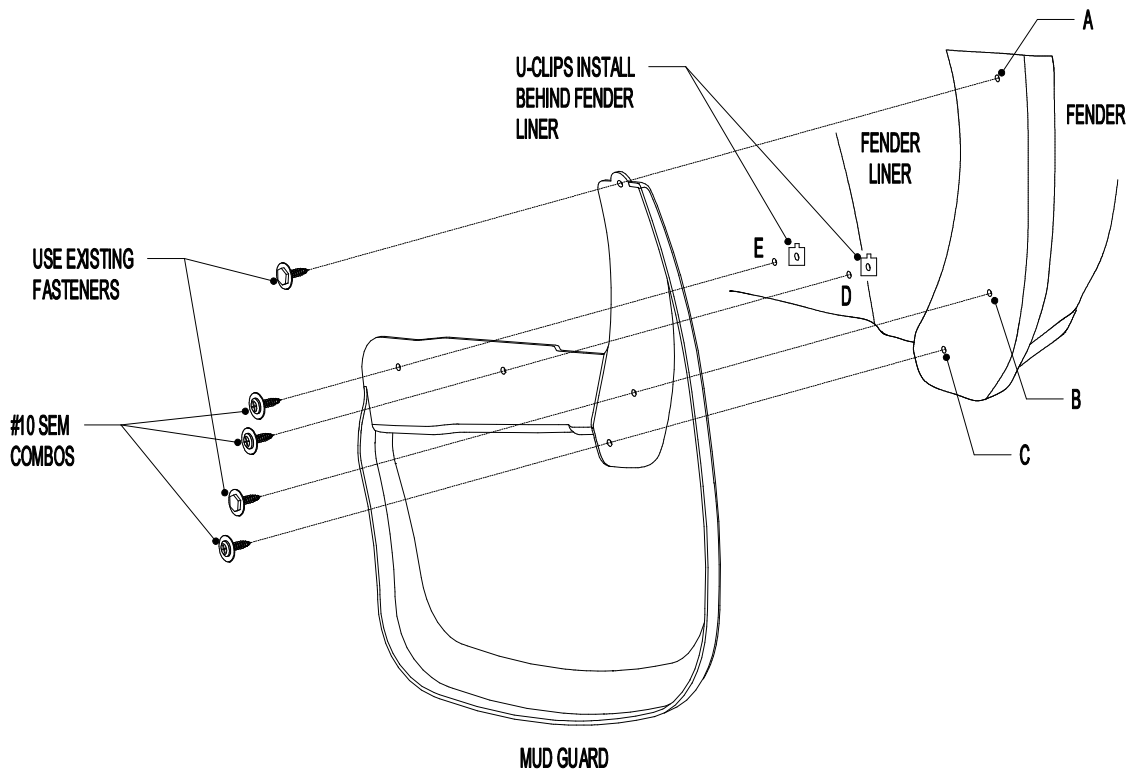

Figure 1
1. Remove the existing fasteners from locations A and B (Figure 1).